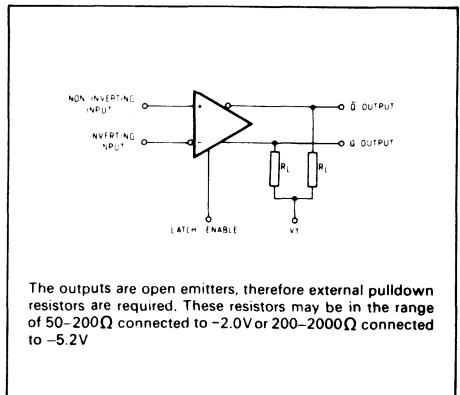

Fig. 2 Functional diagram
- R_L = 50Ω; V_T = -2.0V (See Fig.2)